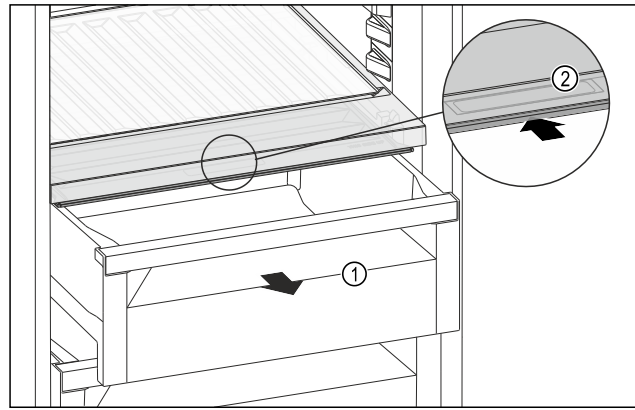

Fig. 161
- ▶ Pull out the drawer Fig. 161 (1).
- ▶ Grasp the recessed grip Fig. 161 (2) on the compartment lid and push the compartment lid backwards at the same time.